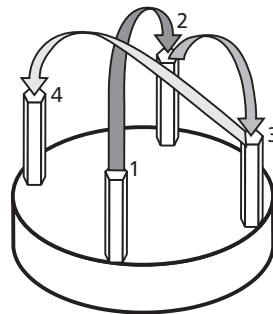

Figure 5-31: Torquing the Standoffs
- It is very important that the standoffs in the manifold assembly be torqued down properly (Figure 5-31).
- Use the specified in.-lb. torque wrench to torque the standoffs to 10 in.-lb. (115 N-cm) in an alternating sequence (Figure 5-31).